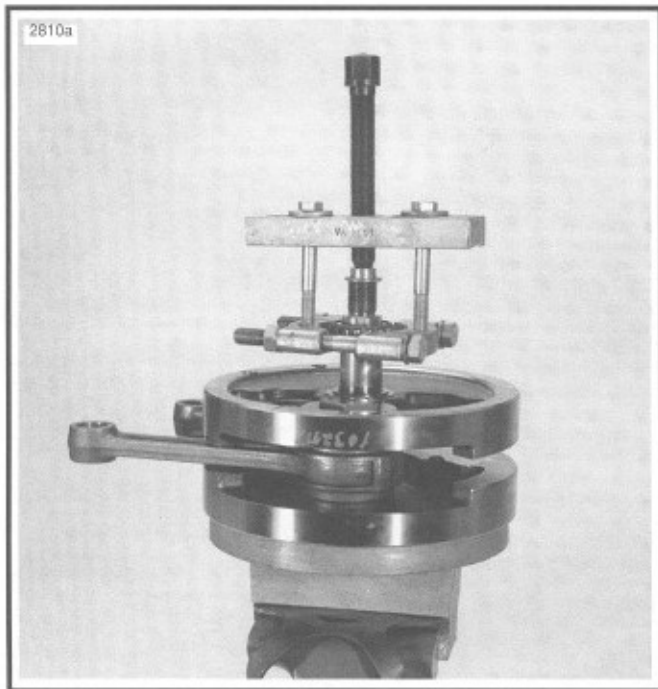

Figure 3-78. Removing Sprocket Shaft Roller Bearing
10. Pinion bearing (11) will remain on pinion shaft. Remove retaining ring (10), and bearing (11) may be slipped off pinion shaft.
11. See Figure 3-78. Pull sprocket shaft bearing with WEDGE ATTACHMENT FOR CLAW PULLER (Part No. HD-95637-46) and TWO JAW PULLER (Part No. HD-97292-61) using bolts in place of jaws.